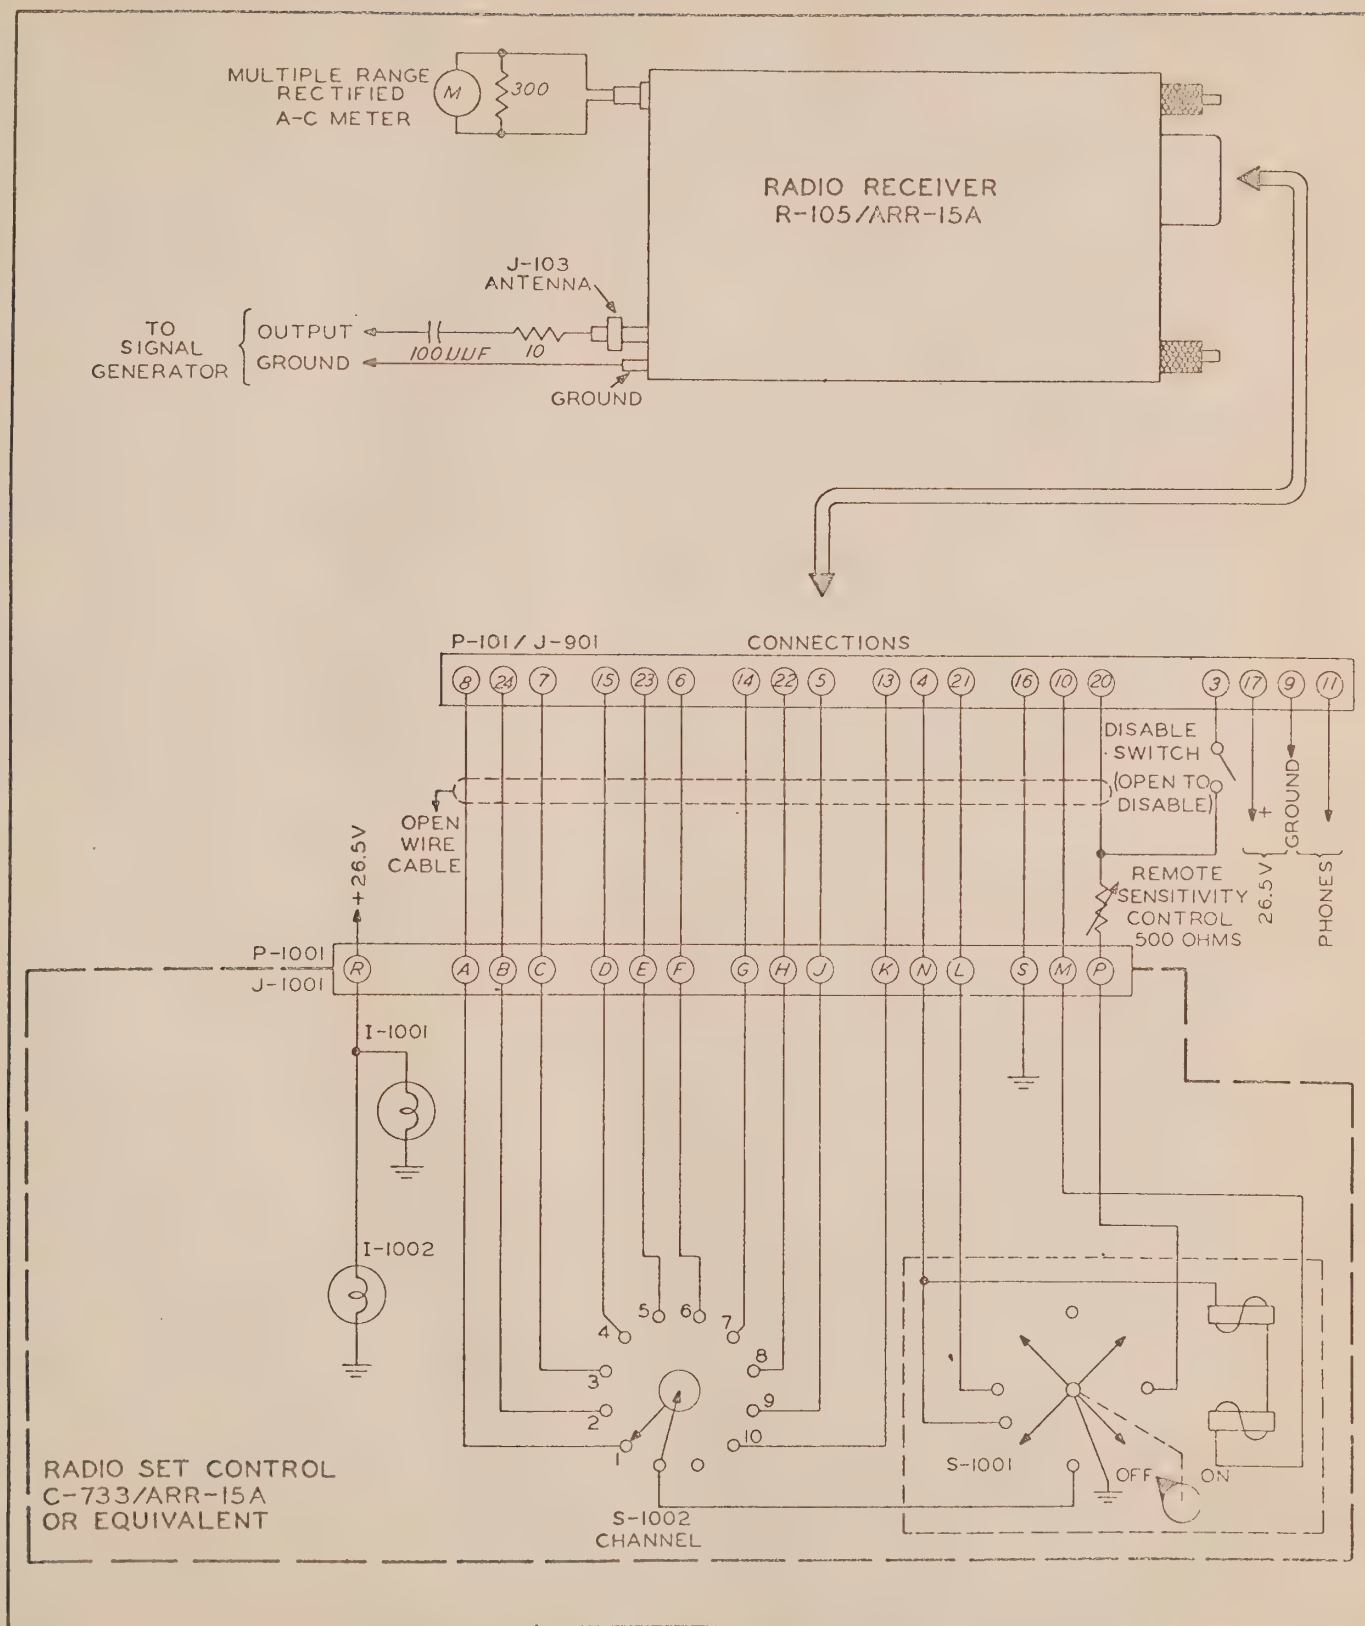

Figure 2-3. Test Bench Set-Up
(c) TEST BENCH SETUP.—If a number of installations are being made at one base it is desirable to make up a test bench so that each equipment may be checked before being mounted in the aircraft. Considerable time and labor may be saved if all units are checked and operating properly before being installed. (Refer to figure 2-3 for a suggested test bench setup.)
1. Connect the power source to the proper terminals on the receptacle at the rear of the mounting base. (See figure 2-3.)